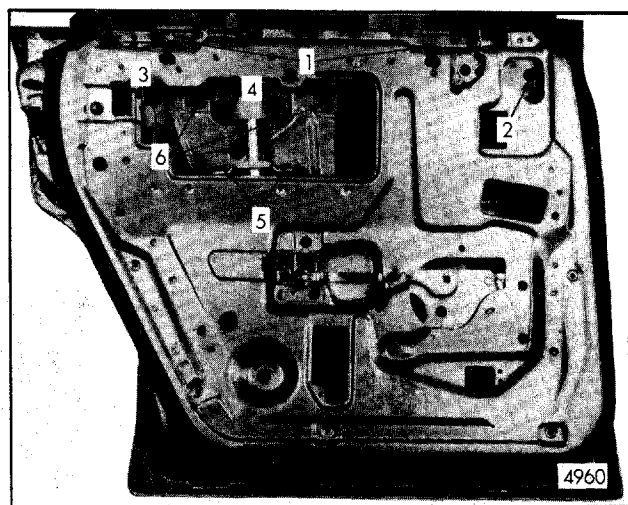
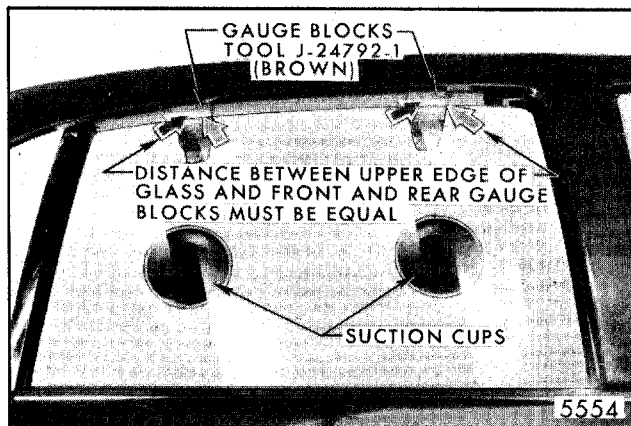
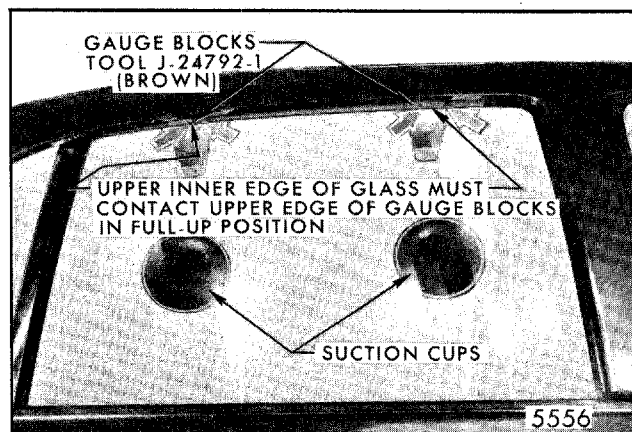
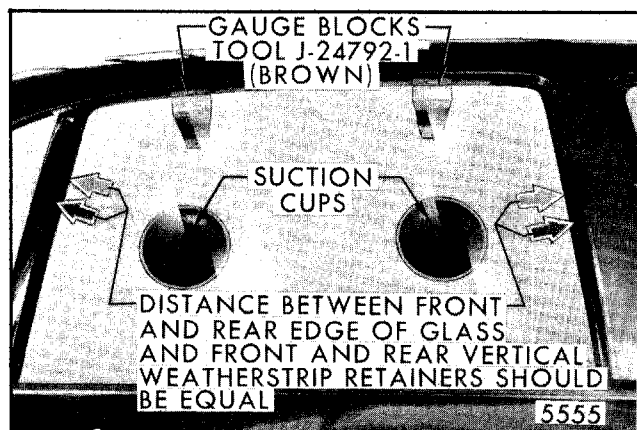

Fig. 5-142-Rear Door Window Removal and Adjustments - "A-29, 35" Styles
Fig. 5-143-Rear Door Window - Rotated Glass Alignment - "A- 29", 35" Styles
Fig. 5-145-Rear Door Window - In and Out and Up-Travel Alignment - "A-29, 35" Styles
Fig. 5-144-Rear Door Window - Fore and Aft Alignment - "A-29, 35" Styles
- WINDOW ROTATED** - Loosen front and rear up-travel stops ("2" and "3", Fig. 5-142) and lower sash upper guide ("4", Fig. 5-142). Position glass with upper edge parallel with side roof rail weatherstrip and tighten lower sash upper guide attaching nuts. Raise glass to desired position and adjust up-travel stops.
- WINDOW INBOARD OR OUTBOARD ALONG UPPER EDGE** - Loosen belt trim support retainers ("1", Fig. 5-142) and lower sash lower guide ("5", Fig. 5-142) and position glass inboard or outboard as required and tighten lower guide. With glass in a full-up position, adjust belt trim support retainers.
- WINDOW TOO HIGH OR LOW IN UP POSITION** - Adjust front and rear up-travel stops ("2" and "3", Fig. 5-142) as required.
- WINDOW TOO FAR FORWARD OR REARWARD** - Adjust lower sash channel guide plate ("6", Fig. 5-142) as necessary.
- WINDOW BINDS** - Ease of window operation and window stability depend to a great extent on belt trim support retainers ("1", Fig. 5-142). Contact should be sufficient to stabilize glass, but not restrict window operation.
(handles protruding inboard), as shown in Figure 5-143. Partially raise glass and install suction cups on interior surface of glass to enable adjuster to shift glass with door closed.
4. Working from inside the body, with door closed, loosen front and rear up-travel stops ("2" and "3", Fig. 5-142) and belt trim support retainers ("1", Fig. 5-142).
5. Raise the rear door window assembly to approximately 1" from the full-up position. If the space between the upper edge of the glass and the front and rear gauge blocks is equal (as shown in Fig. 5-143), proceed with step 6; otherwise, loosen lower sash upper guide attaching nuts ("4", Fig. 5-142) and adjust glass as necessary.
6. Raise rear door window assembly until contact is established between upper edge of glass and both upper gauge blocks. Determine if the rear door window is centered fore and aft in the window opening as shown in Figure 5-144. If glass is properly positioned, proceed with step 7; otherwise, loosen sash guide plate assembly attaching nuts ("6", Fig. 5-142) and move glass forward or rearward as necessary.
7. Loosen lower sash lower guide assembly ("5", Fig. 5-142). Apply firm outboard pressure against the bottom of the lower sash guide plate assembly to remove slack in the system and to hold the upper inner edge of the glass inboard against the outer edge of the gauge blocks as shown in Figure 5-145. Then tighten lower guide attaching screws.
8. With the glass in the full-up position against the upper gauge blocks as shown in Figure 5-145, tighten up-travel stops and adjust belt trim support retainers.
2. Remove front and rear up-travel stops ("2" and "3", Fig. 5-142) and belt trim support retainers ("1", Fig. 5-142).
3. Raise window to within 2" of a full-up position and remove lower sash guide plate assembly to glass attaching nuts ("6", Fig. 5-142).